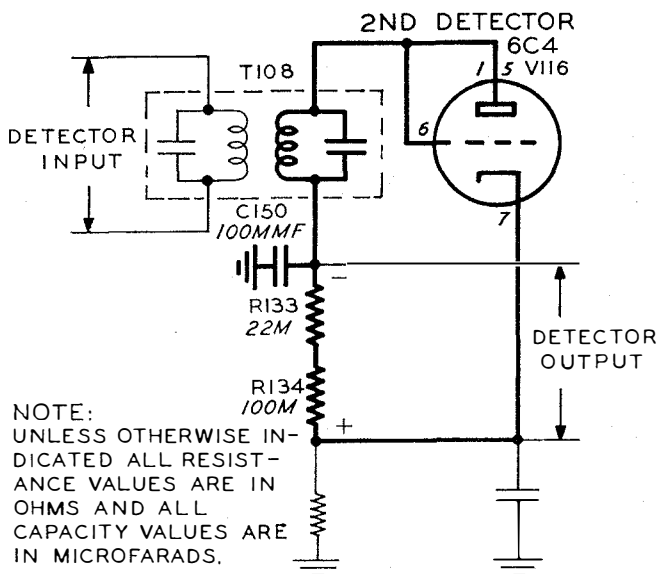
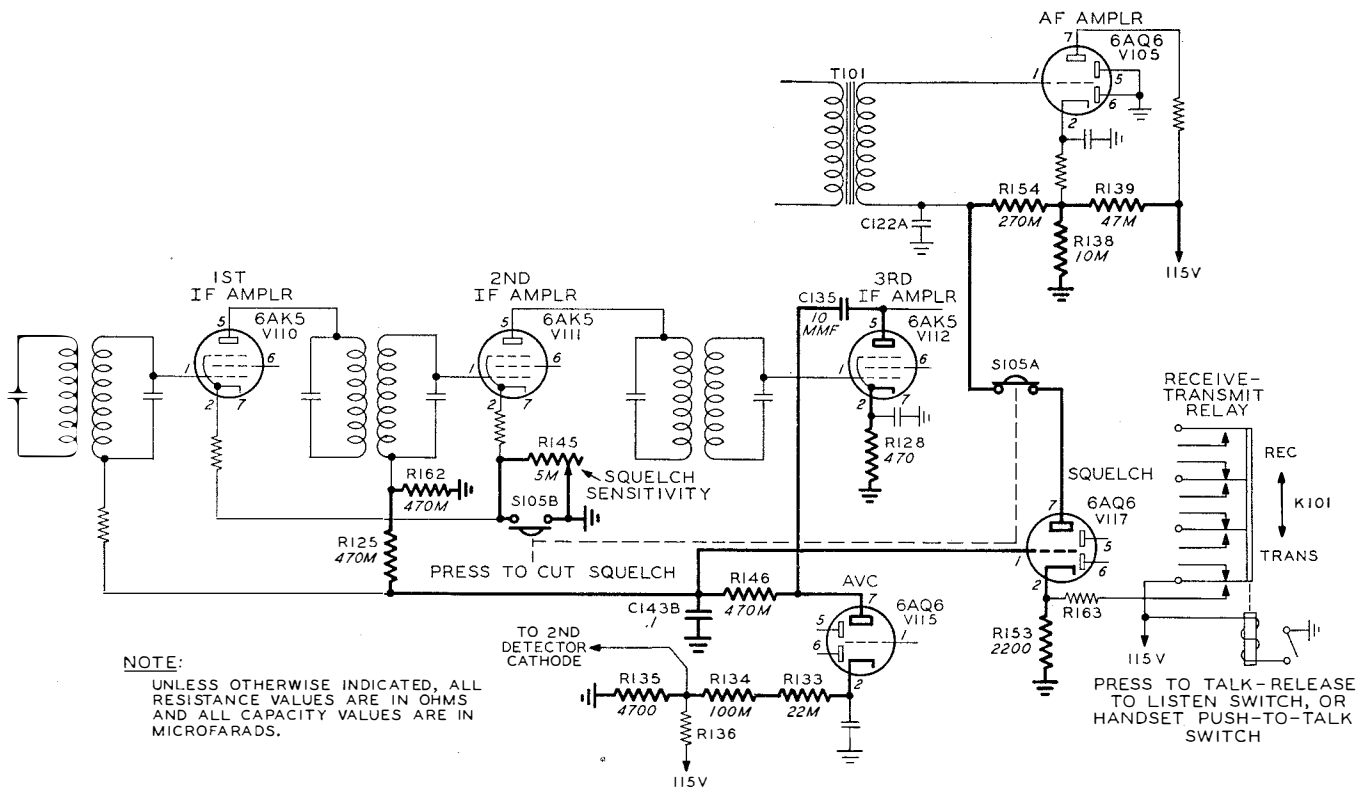

Figure 4-13—2nd Detector Circuit
Figure 4-15—Audio Squelch Circuit
(3) DETECTOR CIRCUIT. (See figure 4-13.)—The detector circuit employs a Type 6C4 triode tube, V116. The voltage output of the third IF amplifier stage is coupled by transformer T108 to the detector grid. The rectified current flow through the diode load resistors, R133 and R134, develops the voltage necessary to operate the noise limiter tube and the audio amplifier. This diode load voltage, when of sufficient magnitude, also causes the AVC circuit to function and disables the squelch circuit by opposing the delaying bias voltage in the cathode circuit of the AVC tube, V115. (See figure 4-15 in this section.)
(5) SQUELCH CIRCUIT. (Refer to figure 4-15.)—The squelch circuit employs the triode section of a Type 6AQ6 diode-triode tube, V117. Plate voltage for the squelch tube is supplied by a voltage dividing circuit consisting of resistors R138 and R139. The voltage is fed through resistor R154. Resistor R154 is common to the squelch plate circuit and the AF amplifier grid circuit, therefore, voltage devel-